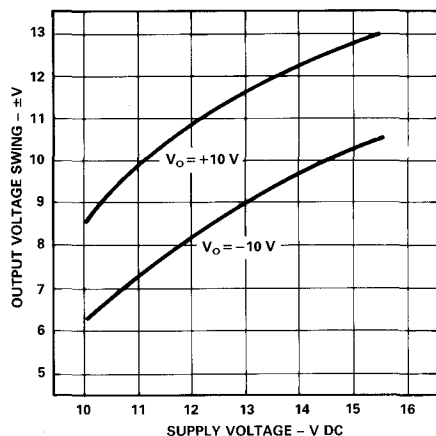
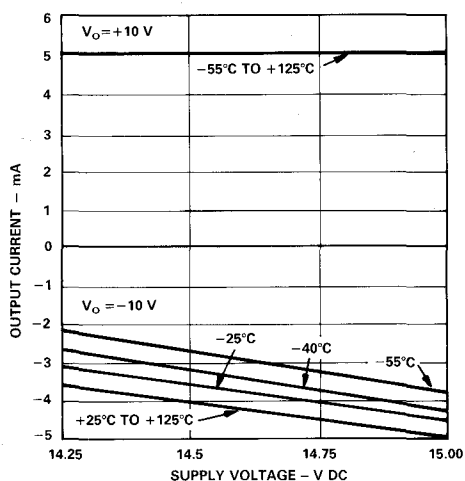

Figure 9. Output Voltage Swing ( $\pm\text{V}$ ) vs. Power Supply Input Voltage (V DC), with a  $2.5\text{ k}\Omega$  Load
Figure 10. Output Current (mA) vs. Supply Voltage (V DC) and Temperature ( $^{\circ}\text{C}$ ), with  $V_{\text{ISO}}$  Loaded at  $5\text{ mA}$
3For additional information on the Rated Output parameters, refer to Figure 9 for a plot of the Output Voltage Swing vs. Power Supply Voltage, and Figure 10 for the Output Current vs. Temperature and Power Supply Voltage relationship.
6Refer to Figure 9 for a plot of output voltage swing versus supply voltage.
**Rated Output.** The rated output voltage, across the OUT HI and OUT LO terminals, for the AD203SN is specified at  $\pm 10\text{ V}$ . This specification applies when the AD203SN is powered by a  $+15\text{ V}$  dc supply. The rated output voltage level is, however, affected by the input power supply voltage and the loads placed on the isolated power supply. This dependency is illustrated in Figure 9.
The current delivered by the output terminals of the AD203SN will vary as a function of the supply voltage and operating temperature. These relationships are illustrated in Figure 10.